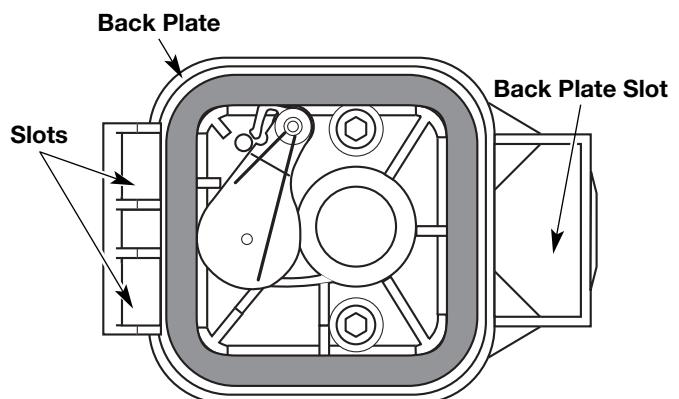

Fig. 31
6. Replace the filter (Fig. 31).
7. Reinstall the air filter cover. Position the hooks on the left side of the air filter cover into the slots at the left side of the back plate (Fig. 31).
8. Swing the cover to the right until the tab on the air filter cover snaps into place in the slot on the back plate (Fig. 31).